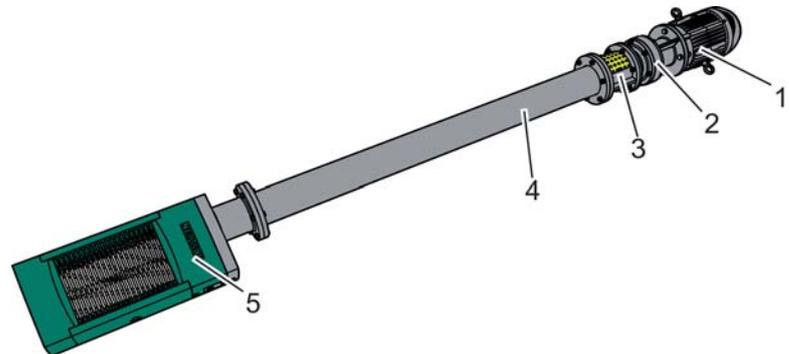

Fig. 34: Machine with drive extension, shown in horizontal position
6.  For low-lying installations, the machine is equipped with a drive extension which is secured to a drive attachment below the drive. Fasten the lifting equipment for lifting in the entire machine directly below the upper connection flange of the drive extension (Fig. 34/4) and attach potential equalization for the transport, if necessary.